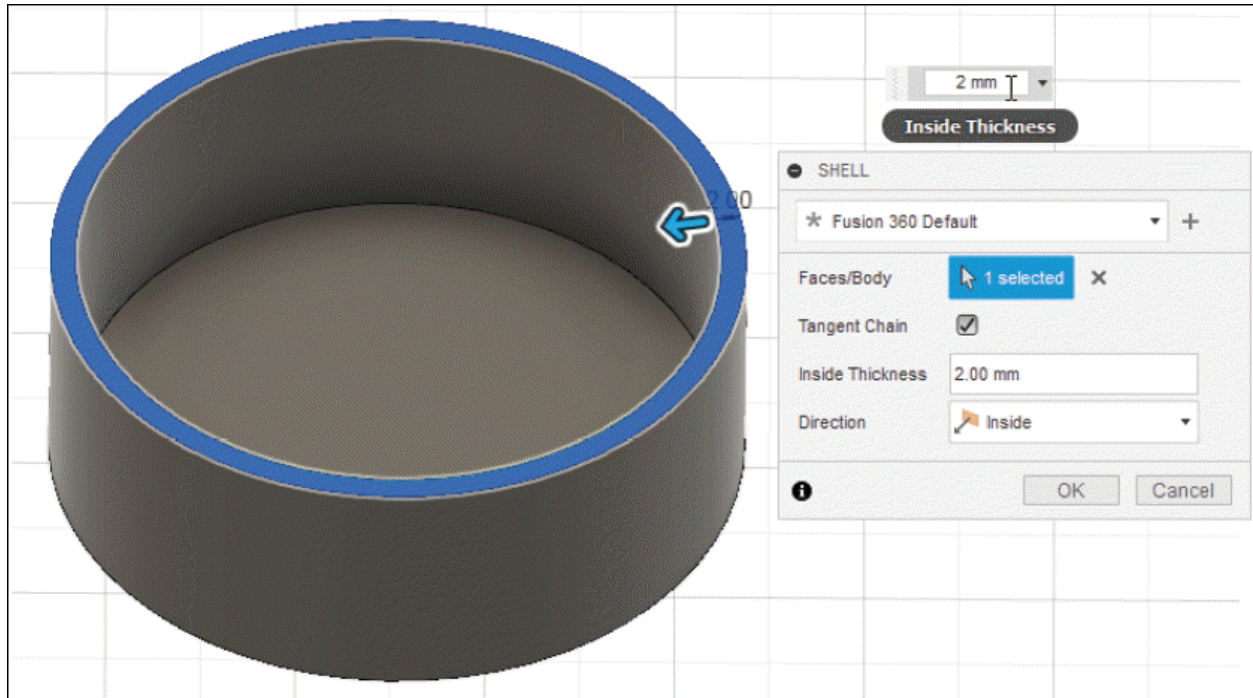

Figure-27. Preview of shell
- Click in the **Inside Thickness** edit box and specify desired value of shell thickness. The preview of shell will be displayed; refer to Figure-27.